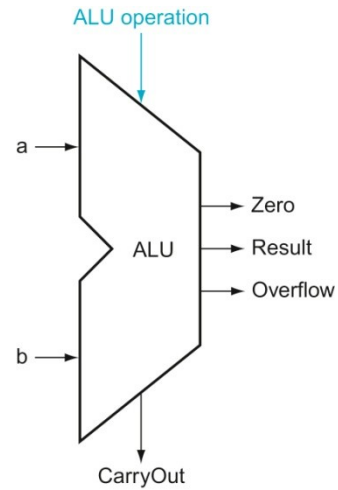

**Figure A.5.12 The final 32-bit ALU.** This adds a Zero detector to Figure A.5.11.
**Figure A.5.14** The symbol commonly used to represent an ALU, as shown in Figure A.5.12. This symbol is also used to represent an adder, so it is normally labeled either with ALU or Adder..